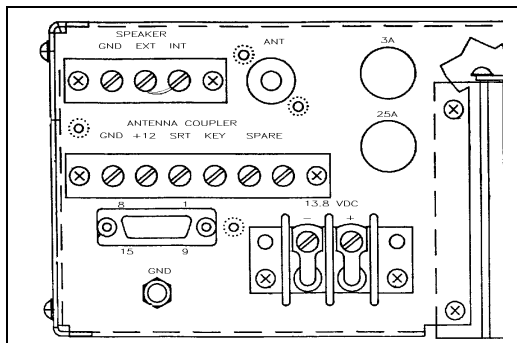

Figure 3. Rear panel connections.
Figure 3 shows the interconnections between the Model 5150 SSB Transceiver, Model H-403CU antenna coupler, antenna, and power source.
- (1) Install the Model H-403CU into your chosen location and connect the coupler to both the transceiver and the antenna. Figure 3 illustrates these connections.
- (2) Locate the coupler close to the antenna base and as near as possible to the ground system. Mounting may be either vertical or horizontal.